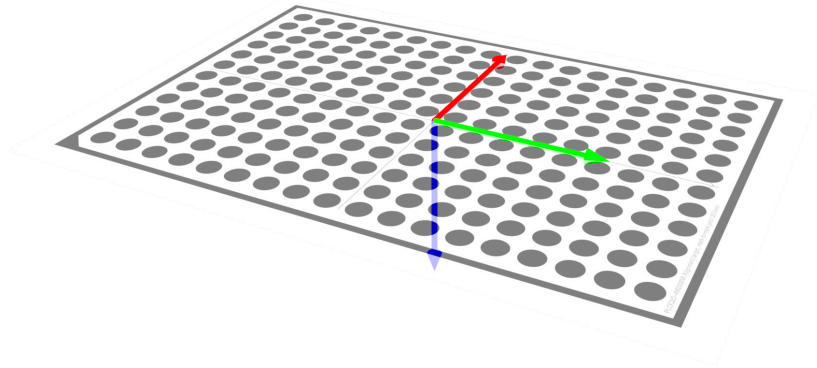

Figure 18: Work plane alignment base
- Define the robot work plane by jogging the robot to the alignment target points indicated by the arrows (x-axis in red, y-axis in green, z-axis in blue) in figure 18